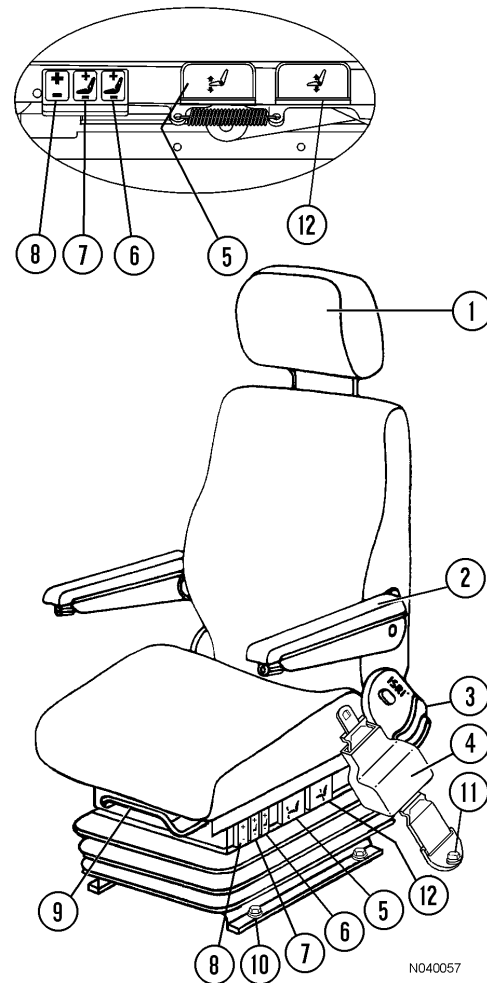

FIGURE 32-10. OPERATOR SEAT
1. **Headrest:** Move up, down, fore, or aft by moving headrest (1, Figure 32-10) to desired position.
3. **Backrest:** Lift handle (3) to release and select backrest angle; release control handle to set.
4. **Seat Belt:** Operator should always have seat belt (4) buckled in place and properly adjusted whenever vehicle is in motion.
5. **Seat Slope:** Lift lever (5) and hold to adjust the slope of seat. Release lever to lock adjustment.
6. & 7 **Air Lumbar Support:** Each rocker switch (6 or 7) controls an air pillow. Switch (7) controls the lower air pillow and switch (6) controls the upper air pillow. To inflate, press on top of rocker switch and hold for desired support, then release. To deflate, press on bottom of rocker switch and hold for desired support, then release. Adjust each pillow for desired support.
8. **Seat Suspension:** Move rocker switch (8) up to increase ride stiffness and down to decrease ride stiffness.
9. **Horizontal Adjustment:** Lift control lever (9) and hold. Bend knees to move seat to a comfortable position; release control lever to lock adjustment
10. **Seat Height:** Lift lever (12) and hold to adjust the height of the seat. Release lever to lock adjustment.
1. Remove capscrews (10, Figure 32-10) and hardware that secures the seat base to the riser. Remove capscrews (11) that secures tether to floor.
1. Mount seat assembly to seat riser. Install capscrews (10, Figure 32-10), lockwashers, flatwashers and nuts. Tighten capscrews to standard torque.
2. Fasten tether straps to floor with capscrews (11), flatwashers and lockwashers. Tighten capscrews to standard torque.